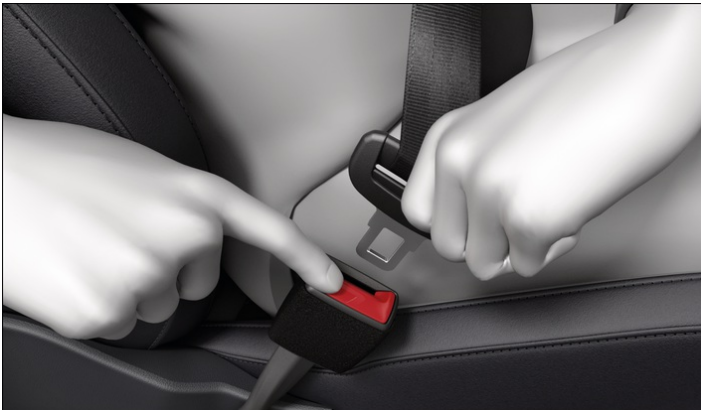

Fig. 2 Removing the latch plate from the buckle.
- Press the red button in the buckle → Fig. 2. The latch plate is released and springs out.